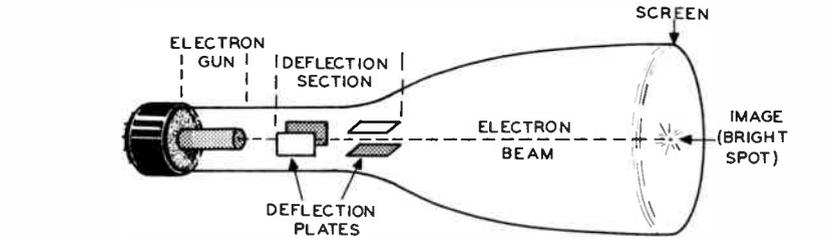
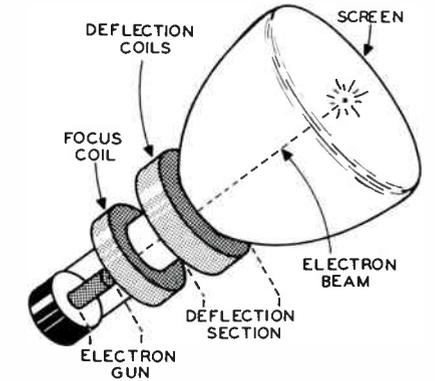

FIGURE 1
FIGURE 9
30. The electron gun used in most electrostatic crt's (Figure 1) has two anodes. One anode is used to focus the beam and the other anode is used to accelerate the beam. The electron gun in an electromagnetic crt such as that of Figure 9 has only an accelerating anode. An external coil mounted around the tube neck is used to focus the electron beam.